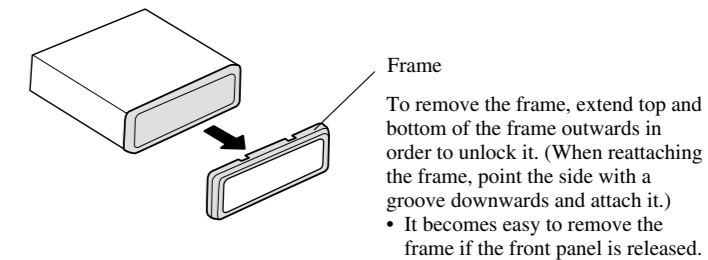
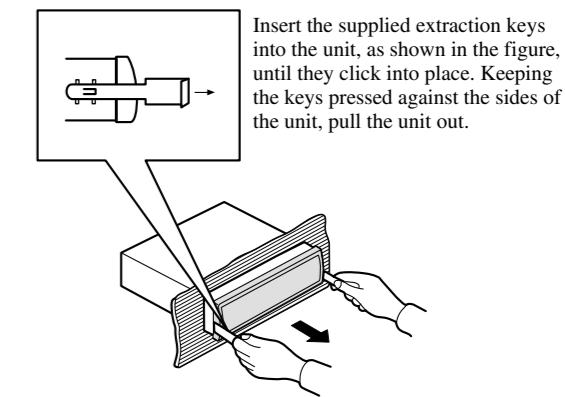

Fig. 6
Fig. 7
**Removing the unit (Fig. 6) (Fig. 7)**